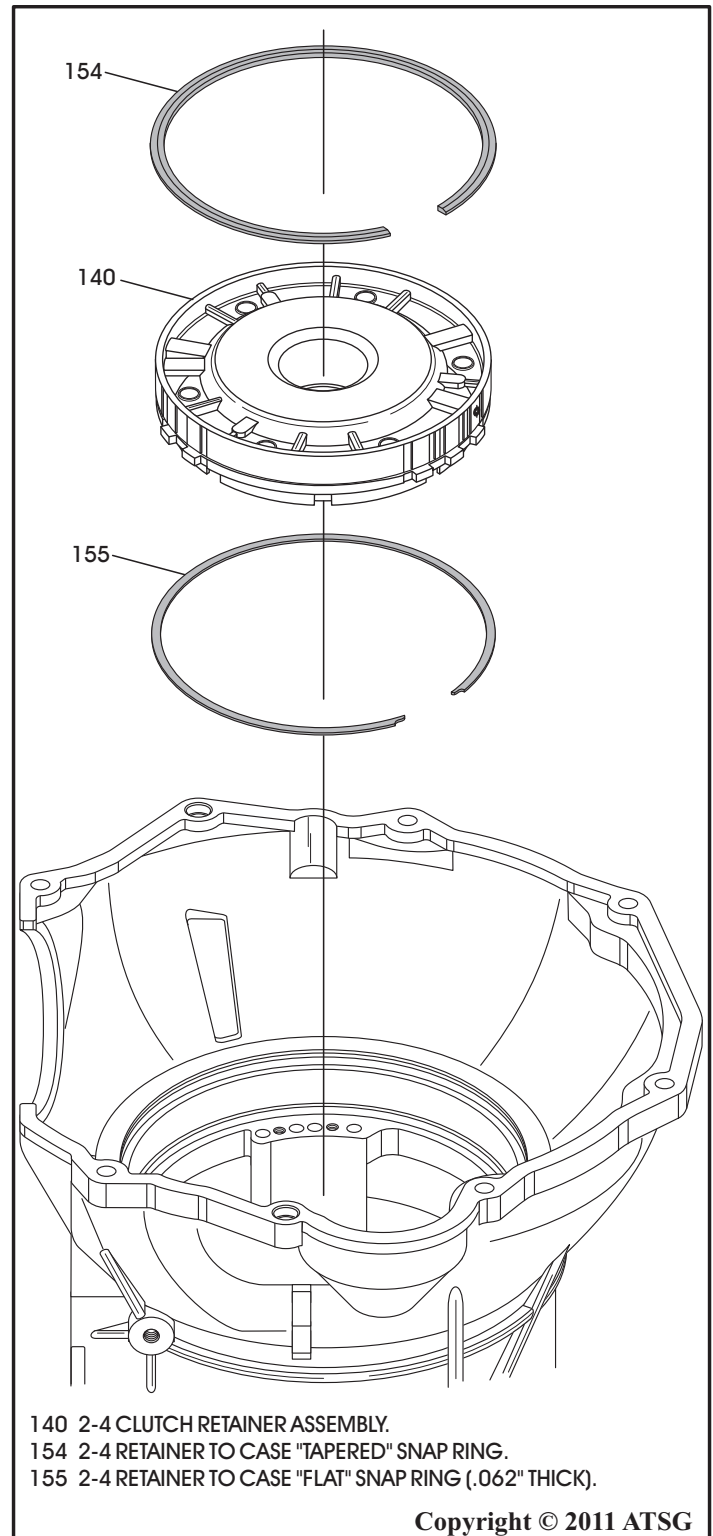

Figure 146
15. Install the 2-4 clutch retainer **flat** snap ring into lower groove in the case with snap ring opening facing the valve body area (See Figure 146).
16. Install the completed 2-4 clutch retainer into the case, as shown in Figure 146, with the feed holes facing the valve body area.
17. Install the 2-4 clutch retainer *tapered* snap ring into the case with taper facing up, as shown in Figure 146, and ensure it is fully seated.